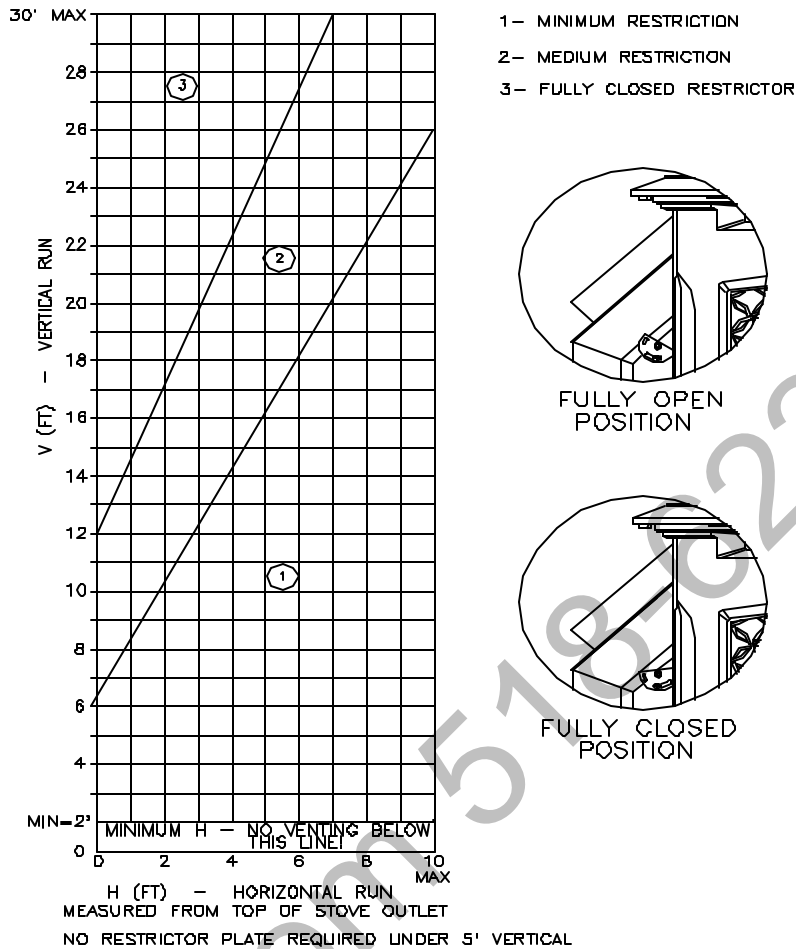

Figure 8: Acceptable Venting Lengths
- 10' maximum offset (refer to Figures 8 – 10 shutter setting)
- maximum rise to run = 1 to 5 (refer to Figures 8 – 10 note shutter setting)
- termination must fall within the area outlined by the shaded area shown in Figure 8 and the chart in Figure 9 should be considered as well.
- 10' maximum offset (refer to Figures 8, 9, & 11 – note shutter setting)
- maximum rise to run = 1 to 5 (refer to Figures 8 & 9 – note shutter setting)
- The termination must fall within the area outlined by the shaded area shown in Figure 8 and the Chart in Figure 9 should be considered as well.
- 10' maximum offset (refer to Figures 8, 9, & 12 – note shutter setting)